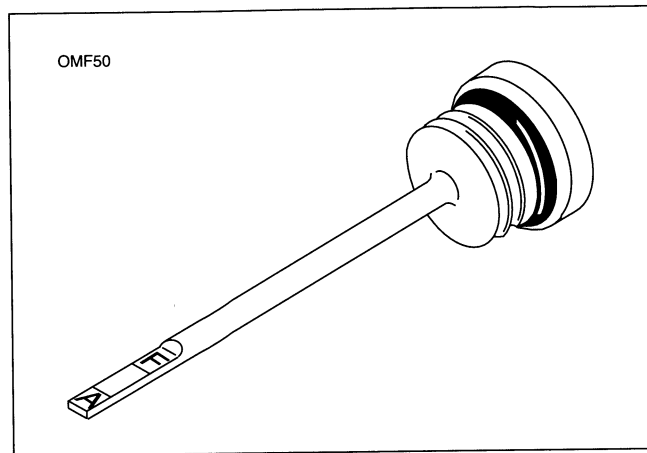

Figure 24. Transmission Lubricant Dipstick
See Figure 24. The transmission lubricant level should be checked monthly.
1. See Figure 24. Remove the threaded filler plug.